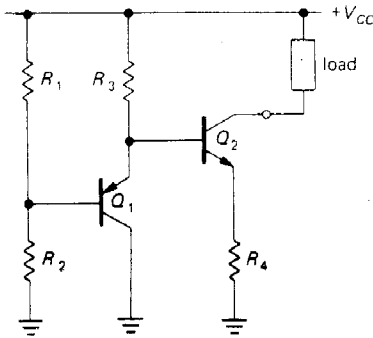

Figure 2.23. One method of temperature-compensating a current source.
2.  $V_{BE}$  and also  $h_{FE}$  depend on temperature. This causes drifts in output current with changes in ambient temperature; in addition, the transistor junction temperature varies as the load voltage is changed (because of variation in transistor dissipation), resulting in departure from ideal current source behavior. The change of  $V_{BE}$  with ambient temperature can be compensated with a circuit like that shown in Figure 2.23, in which  $Q_2$ 's base-emitter drop is compensated by the drop in emitter follower  $Q_1$ , with similar temperature dependence.  $R_3$ , incidentally, is a